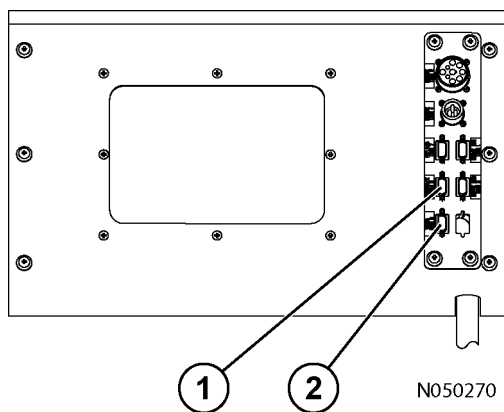

FIGURE 12-5. DIAGNOSTIC PORTS
3. Connect the laptop PC to IM diagnostic port (1, Figure 12-5).
4. Attach the KOMTRAX Plus serial cable to the machine's KOMTRAX Plus diagnostic port (2, Figure 12-5), and the other end to the laptop PC's serial port.
8. Attach the KOMTRAX Plus serial cable to the machine's IM diagnostic port (1, Figure 12-5), and the other end to the laptop PC's serial port.